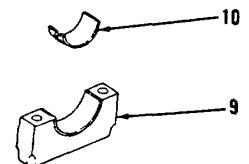
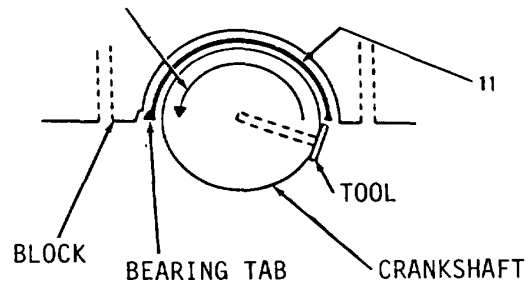

Figure 13-28.
Figure 13-29.
1. Coat two new lower intermediate main bearings (10, Figure 13-28) with clean engine oil.
2. Install in two crankshaft bearing caps (9) with bearing tab toward tab locator in block.
3. Install tool in crankshaft journal (Figure 13-29).
5. Rotate crankshaft and tool against two new upper intermediate bearings (11) to push bearings (11, Figure 13-29) into position. For this step, rotate crankshaft clockwise when engine is viewed from rear.